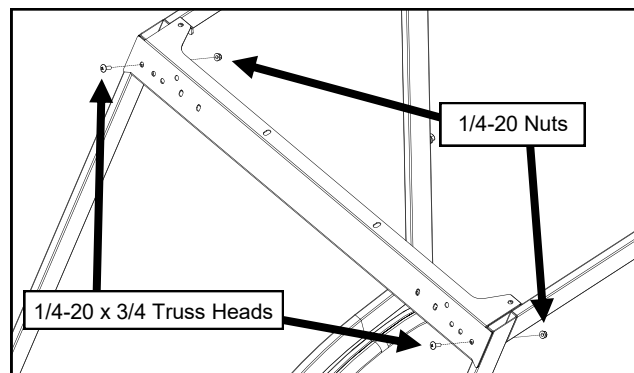

Fig. 7.1 (Windshield Support to Side Frame Fasteners)
7.1 With assistance, align sides and top of the windshield support with the side frames. Fasten the windshield support in place with a screw and lock nut through the front of each side frame. See Figure 7.1.